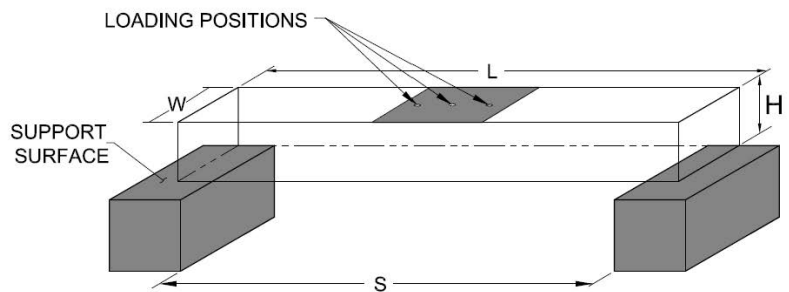

Figure 1
- b. The bridge must span a gap (**S**) of 300 mm (**hint: bridge must be longer than 300 mm**), be no longer (**L**) than 400 mm, be no shorter (**H**) than 50 mm and no taller than 100 mm above the support surface, and be no wider (**W**) than 80 mm and not less than 30 mm. No part of the bridge may extend below the support surface (**see Figure 1**).
- c. The bridge must be constructed to include a horizontal loading plane that provides support for three possible loading positions along the longitudinal axis of the bridge. The three loading positions are located at the center of the bridge and 50 mm to either side of the center of the bridge. (**see Figure 1**).
- d. The loading plane shall be horizontal and shall lie on the physical top of the bridge between 50 mm and 100 mm above the support surfaces (**hint: top of the bridge must be taller than 50 mm but not exceed 100 mm in total height**) (**see Figure 1**).